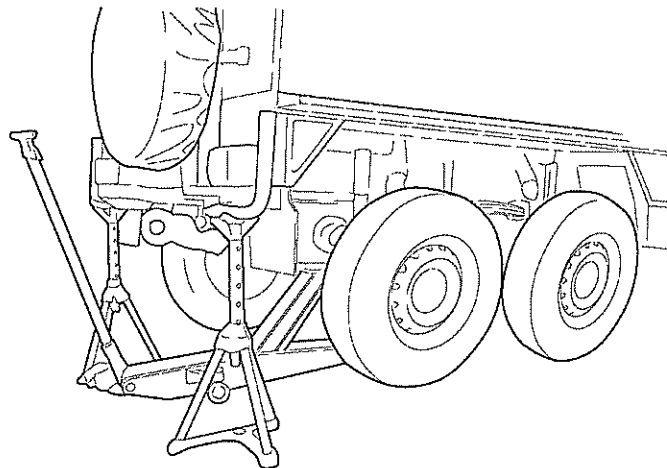

Fig 5 Support rear body (typical 6x6 variant)
- 12.2. Lift vehicle with jack under rearmost differential casing until wheels are clear of ground (see Fig 5). Place axle stands under rear body cross-member and lower vehicle.